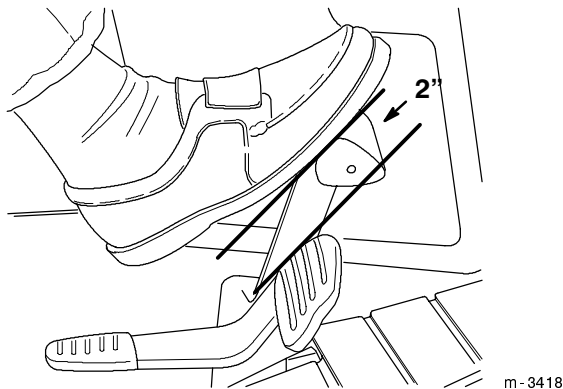

Figure 38
3. Depress the brake pedal. There should be 2" (51 mm) of free travel (Fig. 38) before the brake begins to engage.